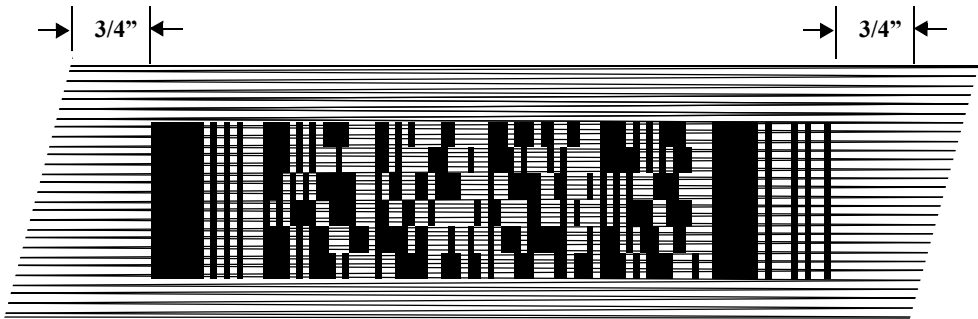

Figure 5-4. Orienting Scanning Pattern On PDF417 Bar Code
- ◆ In all cases, make sure the scan pattern extends *at least 3/4 inch* beyond each edge of the bar code (Figure 5-4).